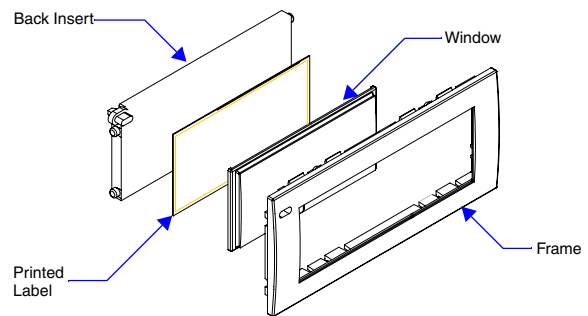

FIG. 3 Prestige Button Components
4. The Prestige buttons are comprised of three parts, the frame, window, and back insert. From the front of the button, use your thumb to poke the window and back insert out of the frame. See FIG. 3.